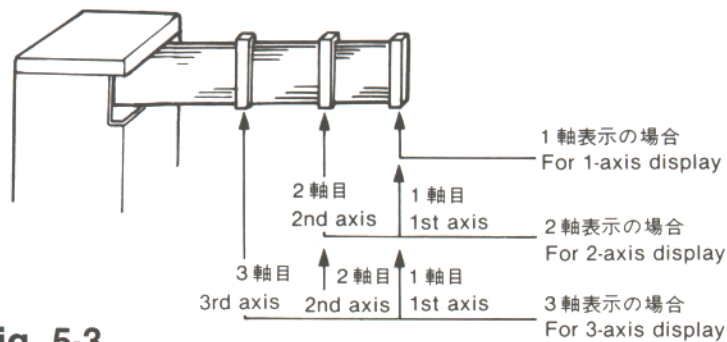

Fig. 5-3
2軸, 3軸の場合は使用コネクタの位置が異なりますので「使用コネクタの位置」(10ページのFig.5-3)をご参照下さい。
- ① Remove the rear cover of the display unit.
- ② Couple the connector of the power supply unit to the display unit. To connect the power supply unit with more than one display unit, refer to "Position of Connectors" (Fig. 5-3 on page 10) for the correct position of each connector.
- ③ Fit hook A of the power supply unit in the lower slit of the display unit and hook B in the upper slit.
- ④ Slide the power supply unit to the right.
- ⑤ Fill the recess formed in the upper surface of the power supply unit with the bush provided, screwing the bush to the display unit.
- ②電源ユニットからの電源供給ケーブルのコネクタを各々の表示ユニットへ接続します。(Fig.5-3)
- ② Connect the power supply cable connectors of the power supply unit to the respective display units. Refer to "Position of Connectors" below. (Fig. 5-3)